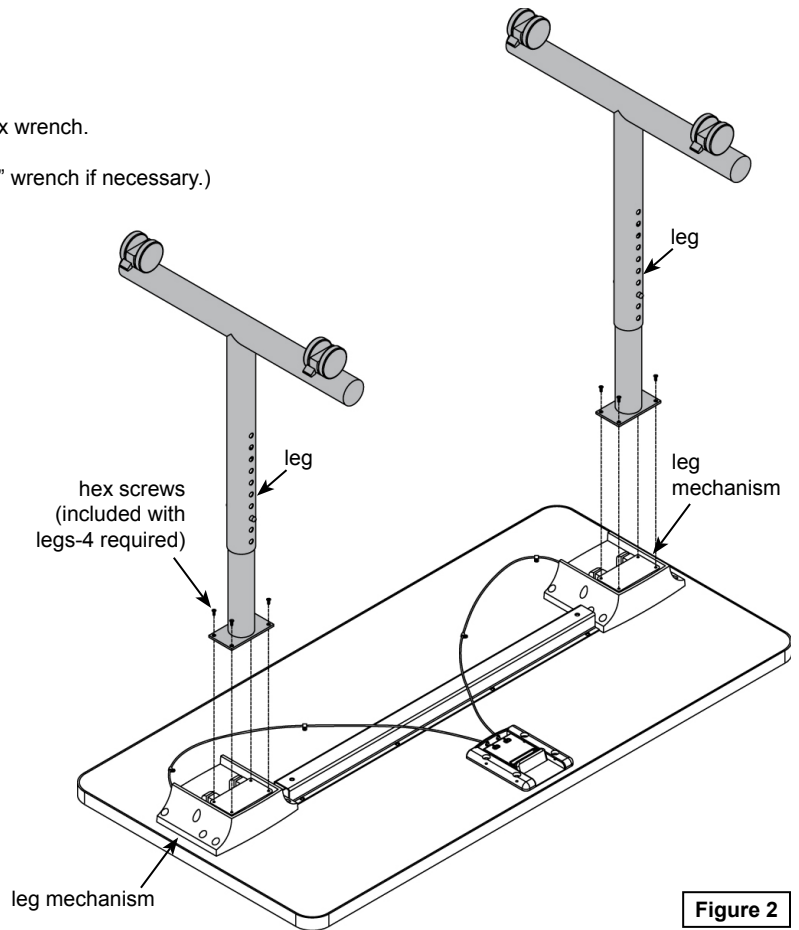

Figure 2
1. Set a leg on each leg mechanism. **Figure 2.**